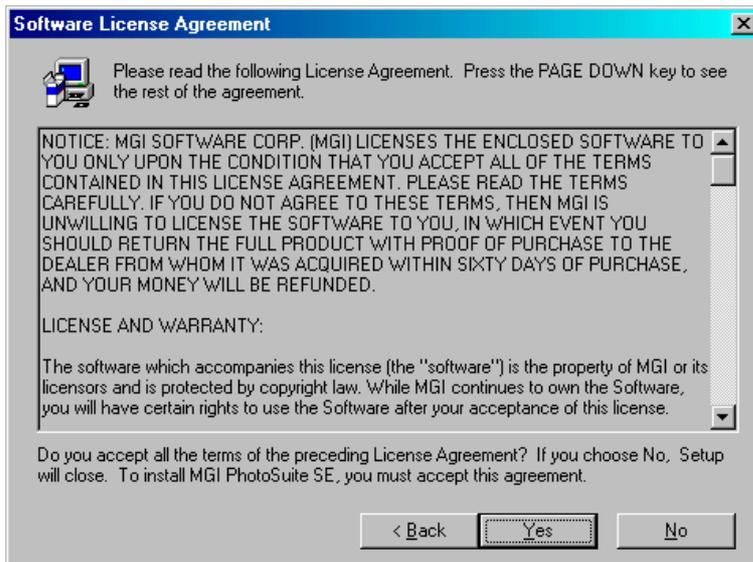

Figure 9: Installing MGI PhotoSuite SE
4. Click on 'Next'. Figure 9 will appear.